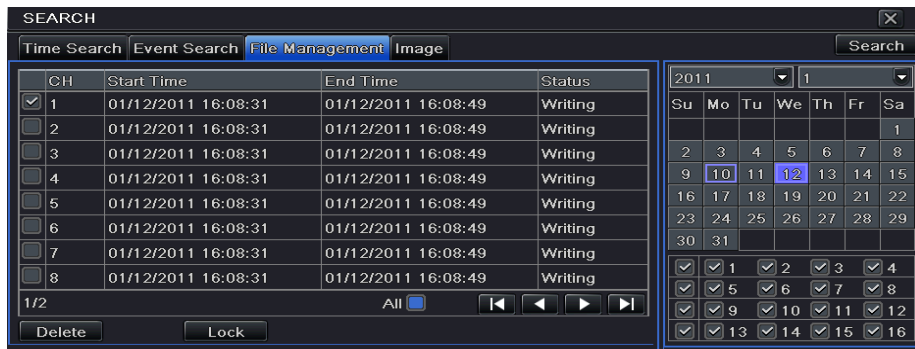

Fig 5-3 Search Configuration-File Management
Step1: Enter into Menu→Search→File Management tab. Refer to Fig 5-3: